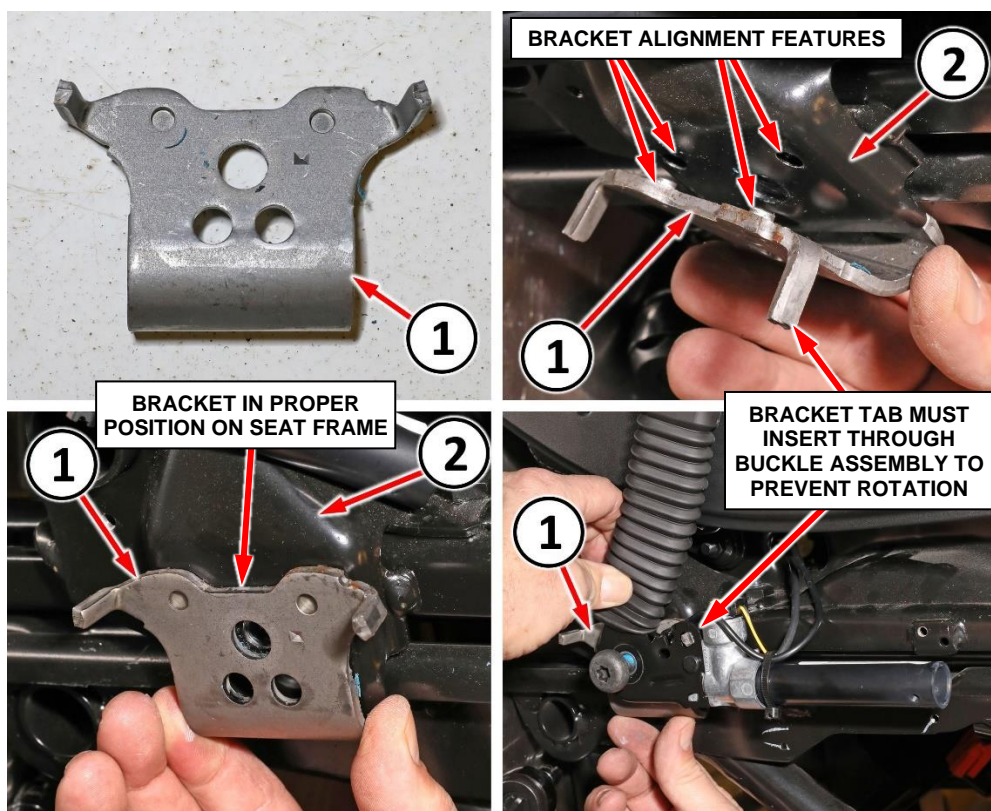

Figure 7 – Buckle Bracket
18. Properly position the buckle bracket (1) alignment features to the seat frame (2) (Figure 7).
19. Align the buckle assembly to the buckle bracket anti-rotation tab (Figure 7).